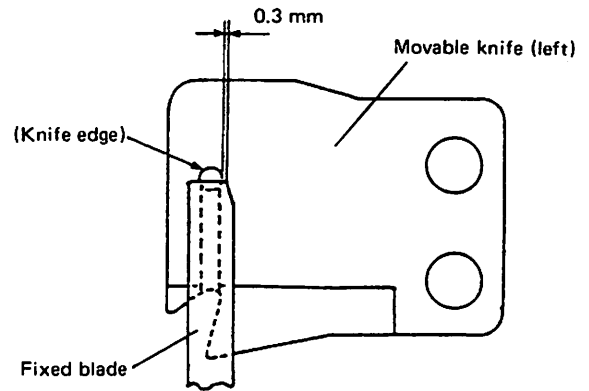

Fig. 4
(1) Fig. 4 shows the standard state.
(2) If the dimension indicated in Fig. 4 is too large, three-thread breakage will occur, leading to needle thread cast-off, etc. after the thread trimming. Reversely, if the dimension is too small, thread trimming error may result. Therefore, caution must be exercised.
(3) Make the adjustment in (2) in the installation procedure of fixed blade bracket unit or in the installation procedure of fixed blade.